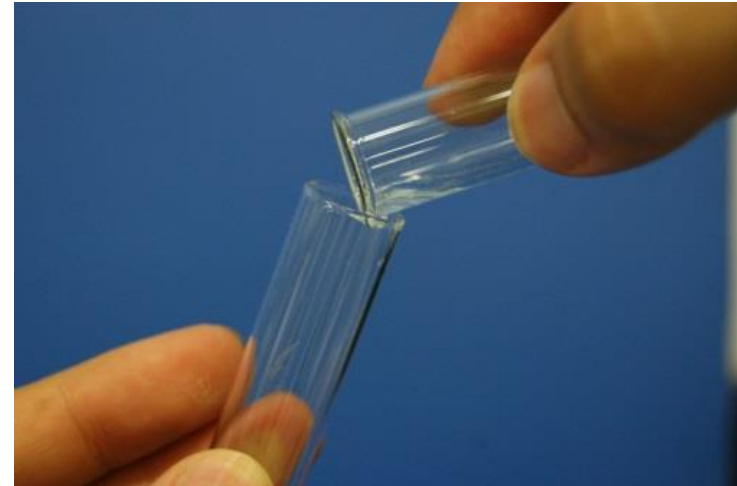

Figure T5-1 Sedimentation and decantation
- Pour the liquid out of beaker and use a glass rod to guide the liquid flow (Figure T5-1). This must be done slowly so that no solid is carried over.